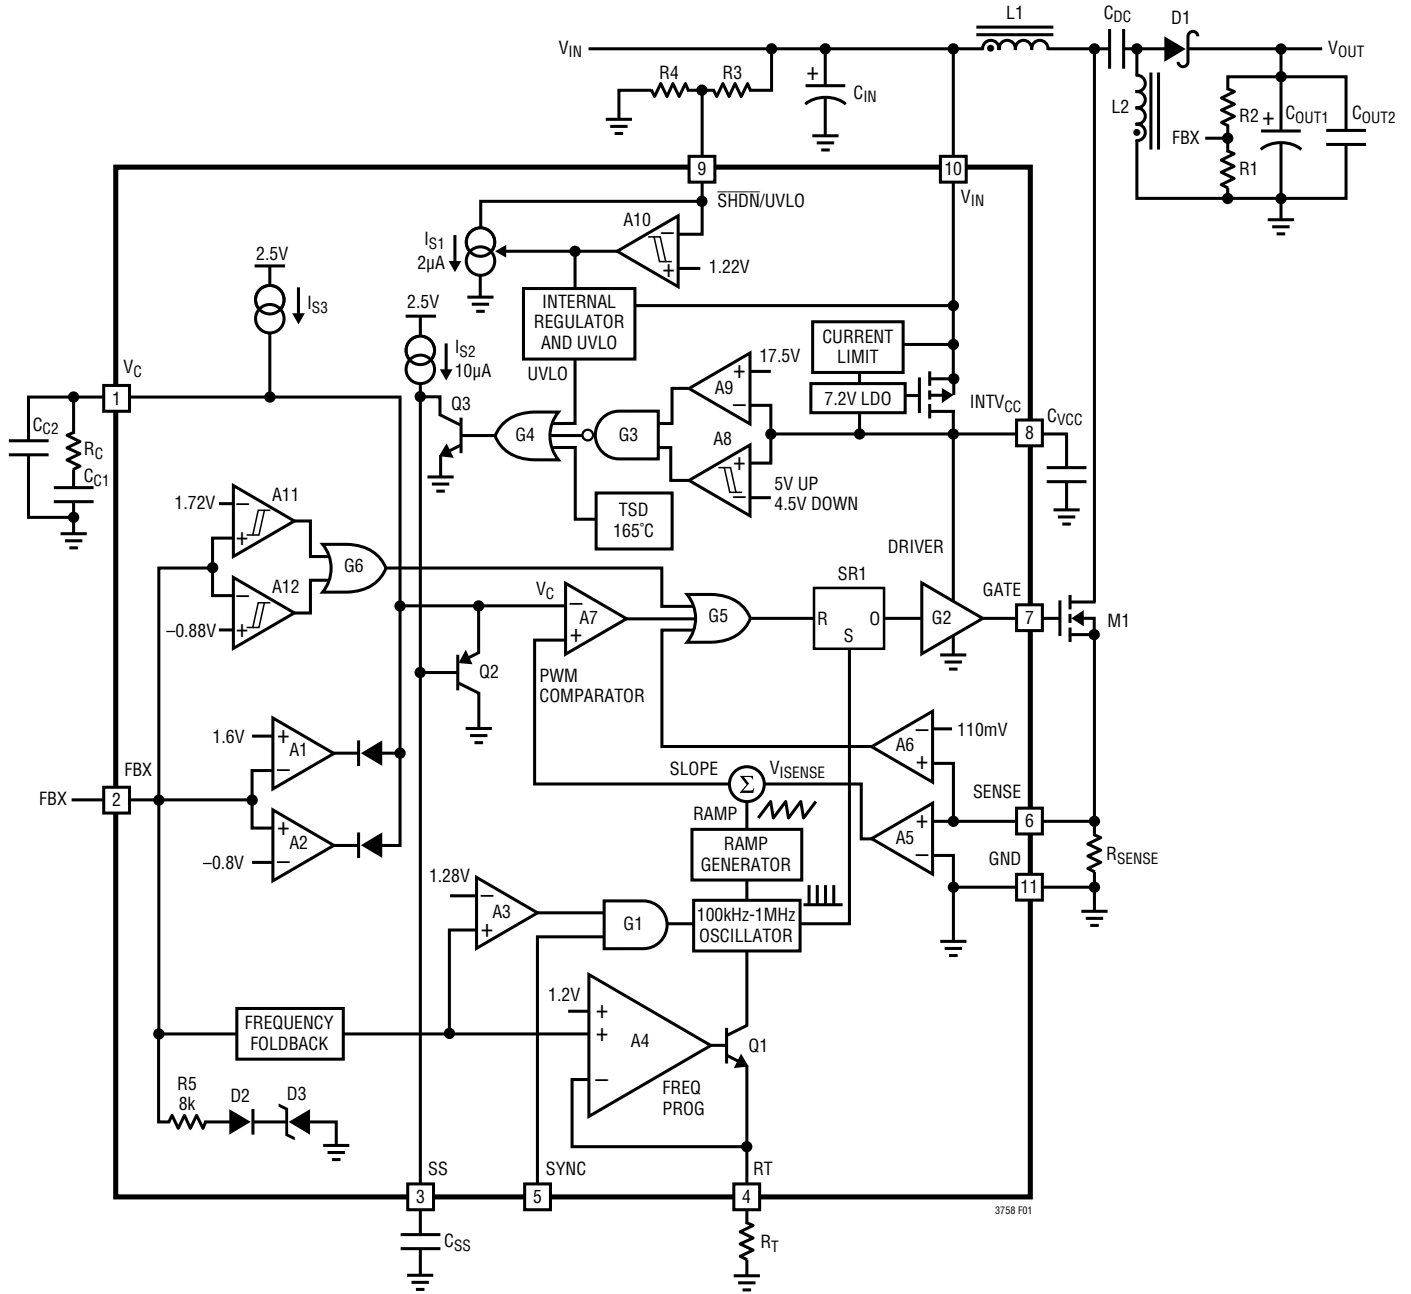

Figure 1. LT3758 Block Diagram Working as a SEPIC Converter
The LT3758 uses a fixed frequency, current mode control scheme to provide excellent line and load regulation. Operation can be best understood by referring to the Block Diagram in Figure 1.
The LT3758 is capable of generating either positive or negative output voltage with a single FBX pin. It can be configured as a boost, flyback or SEPIC converter to generate positive output voltage, or as an inverting converter to generate negative output voltage. When configured as a SEPIC converter, as shown in Figure 1, the FBX pin is pulled up to the internal bias voltage of 1.6V by a voltage divider (R1 and R2) connected from V_{OUT} to GND. Comparator A2 becomes inactive and comparator A1 performs the inverting amplification from FBX to V_C . When the LT3758 is in an inverting configuration, the FBX pin is pulled down to $-0.8V$ by a voltage divider connected from V_{OUT} to GND. Comparator A1 becomes inactive and comparator A2 performs the noninverting amplification from FBX to V_C .
The purpose of this current is to allow the user to program the rising hysteresis. The Block Diagram of the comparator and the external resistors is shown in Figure 1. The typical falling threshold voltage and rising threshold voltage can be calculated by the following equations:
An internal, low dropout (LDO) voltage regulator produces the 7.2V INTV_{CC} supply which powers the gate driver, as shown in Figure 1. The LT3758 contains an undervoltage lockout comparator A8 and an overvoltage lockout comparator A9 for the INTV_{CC} supply. The INTV_{CC} undervoltage (UV) threshold is 4.5V (typical), with 0.5V hysteresis, to ensure that the MOSFETs have sufficient gate drive voltage before turning on. The logic circuitry within the LT3758 is also powered from the internal INTV_{CC} supply.
The choice of operating frequency may be determined by on-chip power dissipation, otherwise it is a trade-off between efficiency and component size. Low frequency operation improves efficiency by reducing gate drive current and MOSFET and diode switching losses. However, lower frequency operation requires a physically larger inductor. Switching frequency also has implications for loop compensation. The LT3758 uses a constant-frequency architecture that can be programmed over a 100kHz to 1000kHz range with a single external resistor from the R_T pin to ground, as shown in Figure 1. The R_T pin must have an external resistor to GND for proper operation of the LT3758. A table for selecting the value of R_T for a given operating frequency is shown in Table 1.
The output voltage V_{OUT} is set by a resistor divider, as shown in Figure 1. The positive and negative V_{OUT} are set by the following equations:
In the applications where V_{OUT} is pulled up by an external positive power supply, the FBX pin is also pulled up through the R2 and R1 network. Make sure the FBX does not exceed its absolute maximum rating (6V). The R5, D2, and D3 in Figure 1 provide a resistive clamp in the positive direction. To ensure FBX is lower than 6V, choose sufficiently large R1 and R2 to meet the following condition:
The LT3758 addresses this mechanism with the SS pin. As shown in Figure 1, the SS pin reduces the power MOSFET current by pulling down the V_C pin through Q2. In this way the SS allows the output capacitor to charge gradually toward its final value while limiting the start-up peak currents. The typical start-up waveforms are shown in the Typical Performance Characteristics section. The inductor current I_L slewing rate is limited by the soft-start function.
load transient response, when compared to the LT3758. New internal circuits ensure that the transient from not switching to switching at high current can be made in a few cycles. The optimum values depend on the converter topology, the component values and the operating conditions (including the input voltage, load current, etc.). To compensate the feedback loop of the LT3758/LT3758A, a series resistor-capacitor network is usually connected from the V_C pin to GND. Figure 1 shows the typical V_C compensation network. For most applications, the capacitor should be in the range of 470pF to 22nF, and the resistor should be in the range of 5k to 50k. A small capacitor is often connected in parallel with the RC compensation network to attenuate the V_C voltage ripple induced from the output voltage ripple through the internal error amplifier. The parallel capacitor usually ranges in value from 10pF to 100pF. A practical approach to design the compensation network is to start with one of the circuits in this data sheet that is similar to your application, and tune the compensation network to optimize the performance. Stability should then be checked across all operating conditions, including load current, input voltage and temperature.